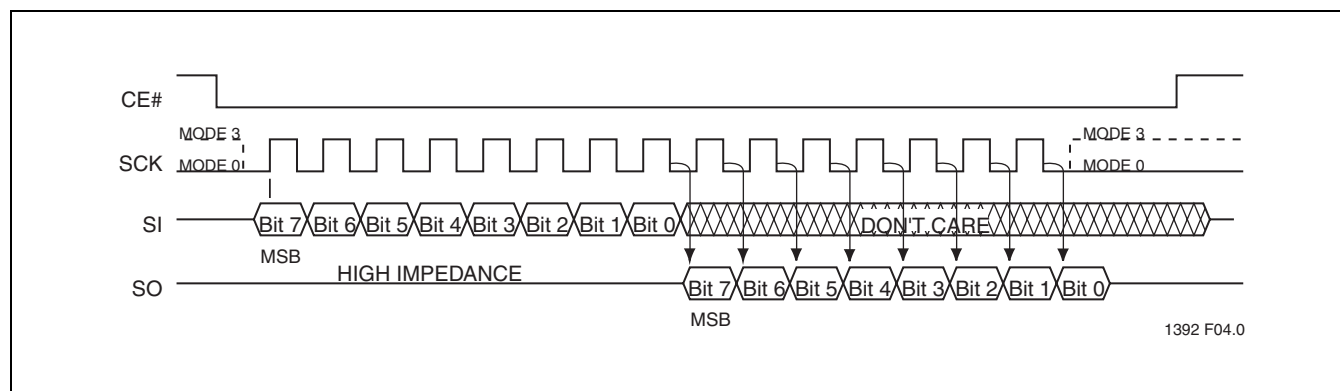

FIGURE 3: SPI Protocol
The PCT25VF064C supports both Mode 0 (0,0) and Mode 3 (1,1) of SPI bus operations. The difference between the two modes, as shown in Figure 3, is the state of the SCK signal when the bus master is in Stand-by mode and no data is being transferred. The SCK signal is low for Mode 0 and SCK signal is high for Mode 3. For both modes, the Serial Data In (SI) is sampled at the rising edge of the SCK clock signal and the Serial Data Output (SO) is driven after the falling edge of the SCK clock signal.